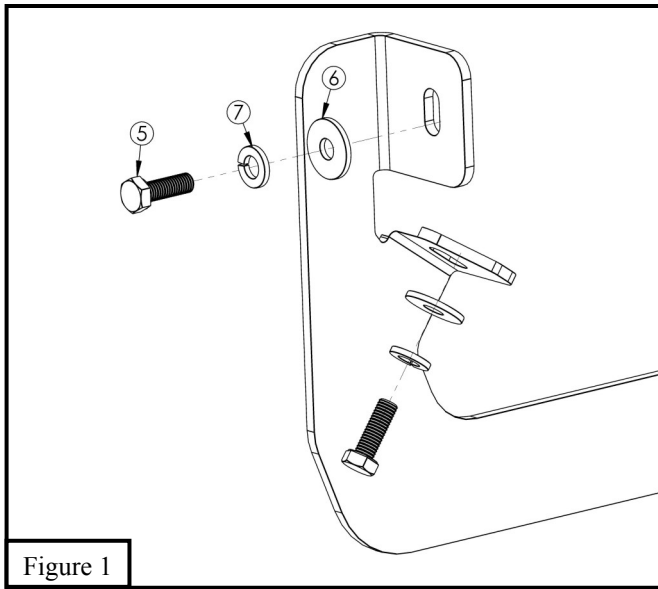

Figure 1
- Starting on the driver's side. Locate front mounting location and locate (1) mount bracket B and loosely install onto rocker panel using (2) M8 hex head cap screws, (2) M8 flat washers and (2) M8 lock washers. **See Figure 1.**